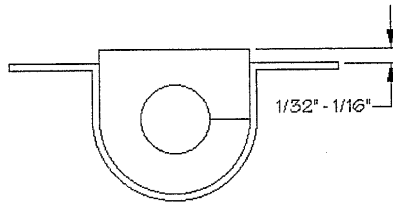

FIG.1
2. Thoroughly lubricate the inside of your new hyper thane bushings using a high-grade lithium or silicone-based grease with molybdenum disulfide (moly) (Photo 12). Place the bushings onto the new Anti-Sway Bar. Refer to the original equipment Anti-Sway Bar as to the proper bushing location. (See Fig. 1)